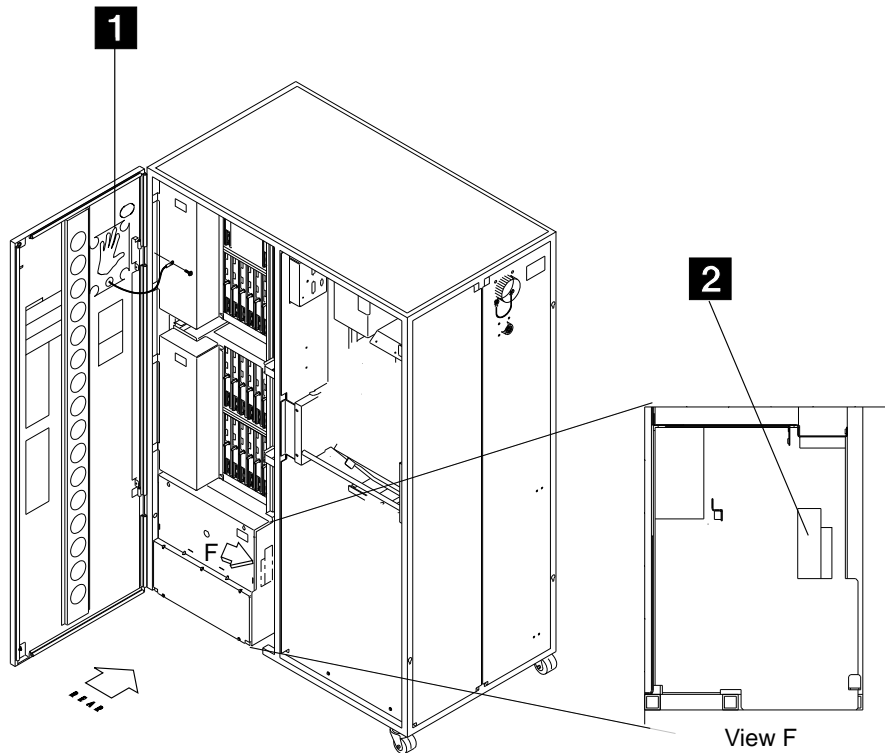

Figure 8-9. Electronic Discharge Plates
- d. **Touch** the electrostatic discharge plate. (see Figure 8-9 detail **1**)
**Note:** If you need help identifying connectors or plugging in any of the cables, refer to the appropriate task descriptions in Chapter 1 of the *Connection and Integration Guide, SA33-0129*. Before plugging the cables touch the electronic discharge plate with the cable connectors (see Figure 8-9 detail **2**).